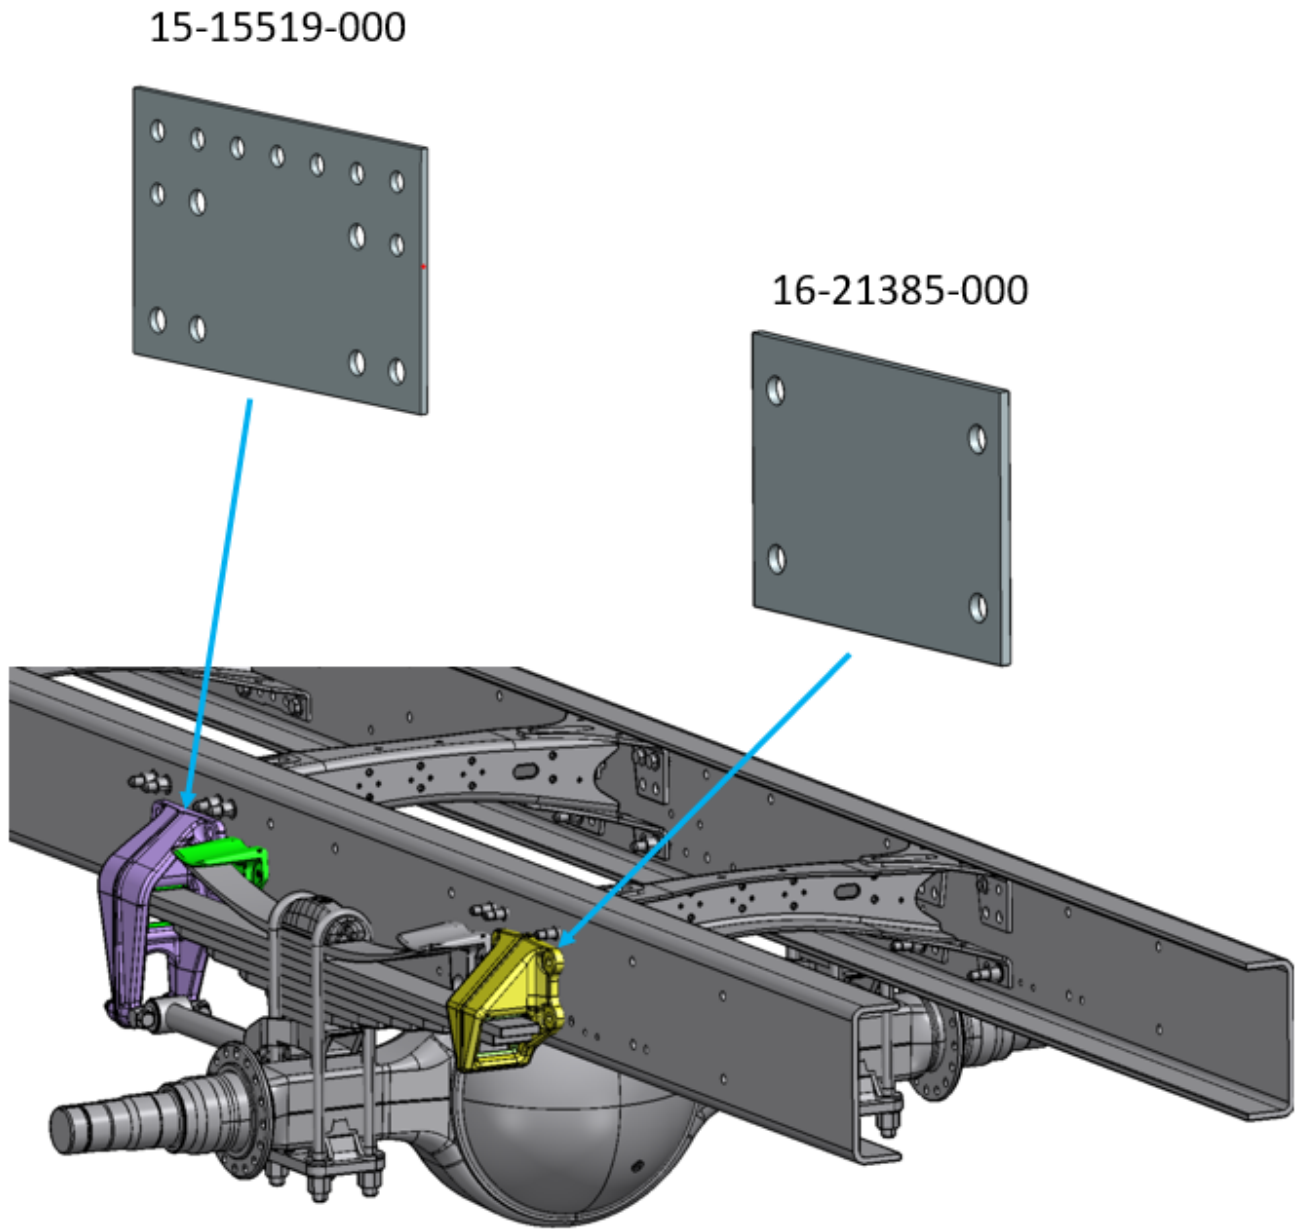
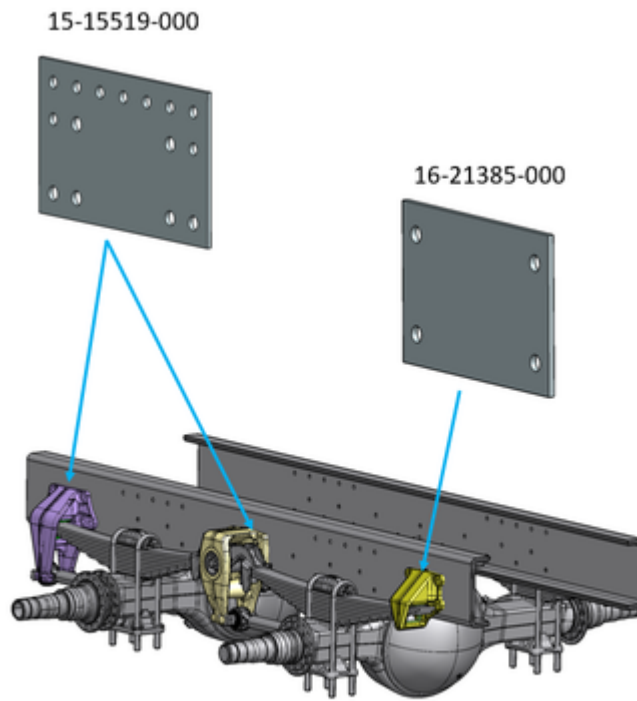

Fig. 1
Fig. 3
4. Install 15-15519-000 spacer plates between the forward spring hanger brackets and the LH and RH frame rails (see Fig 1 and Fig 3).
6. Install the 16-21385-000 spacer plates between the rear spring hanger brackets and the LH and RH frame rails (See Fig 1 and Fig 3).